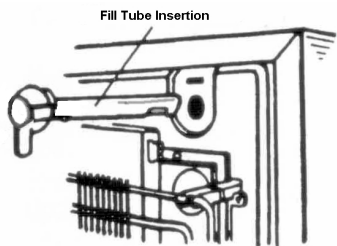
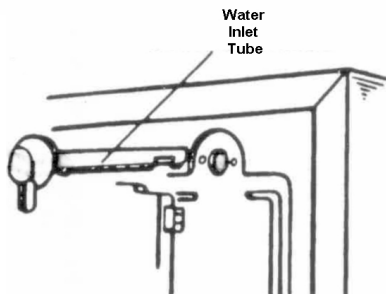

Figure 9
Figure 10
7. Push water inlet tube through the installation hole in the back of the unit, see Figure 9 for external condenser models, see Figure 10 for internal condenser models. Using a circular motion as you push through the insulated area between the case and the inner liner, will make this easier.